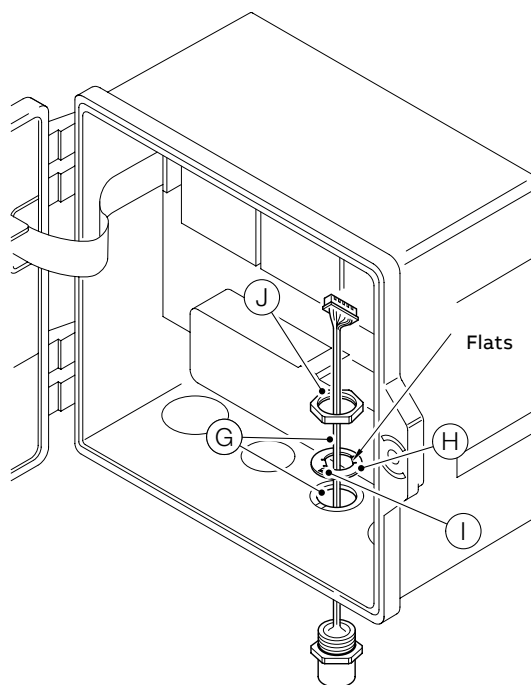

Figure 6 Preparing EZLink bulkhead connector cable fixings
Referring to Figure 6:
- 7** Fit alignment tab (I) into gland plate slot (K) into the casting slot.
- 8** Insert EZLink bulkhead connector body (L) fully into cable entry and align the bulkhead connector body using the flats on the alignment washer (see Figure 6, item (H)).
- 9** Screw back nut (J) onto bulkhead connector body and tighten to a torque of 3 to 4 N·m (2.21 to 2.95 lbf·ft) using a torque wrench.